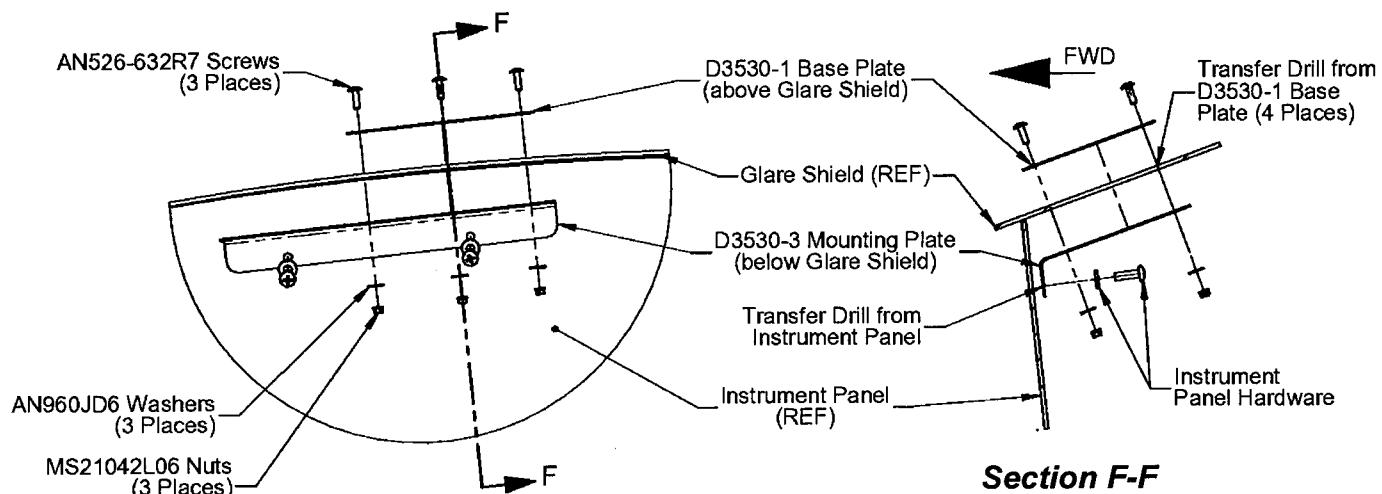

Figure 3.2.3 – D3530-1 Base Plate and D3530-3 Mounting Plate Installation
3.2.6 Install the D3530-1 Base Plate and D3530-3 Mounting Plate on the helicopter glare shield with qty(3) AN526-632R7 screws, qty(3) AN960JD6 washers and qty(3) MS21042L06 nuts, as shown in **Figure 3.2.3**. Replace any of the screws that were removed from the instrument panel in step 3.2.3 through the D3530-3 Mounting Plate. Torque the screws to 5-6 in-lbs (0.6-0.7 N-m).